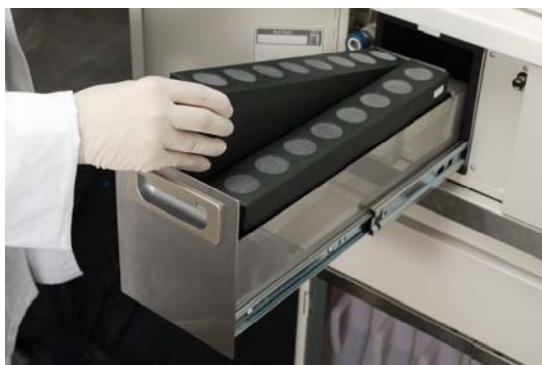

Figure 2-A
4. Place the carbon cartridges side by side in a vertical position in the appropriate location (Figure 2-A).